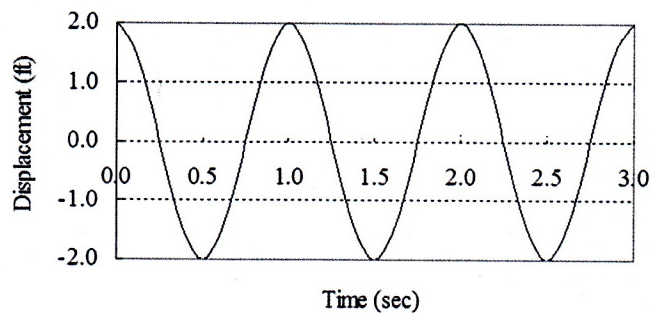

Figure 1
1. a) Define undamped, critically damped and overdamped systems. Derive equation of motion of free vibration of an underdamped SDOF system. (11)
- b) The free vibration of an undamped system is shown below in *Figure 1*. (9)